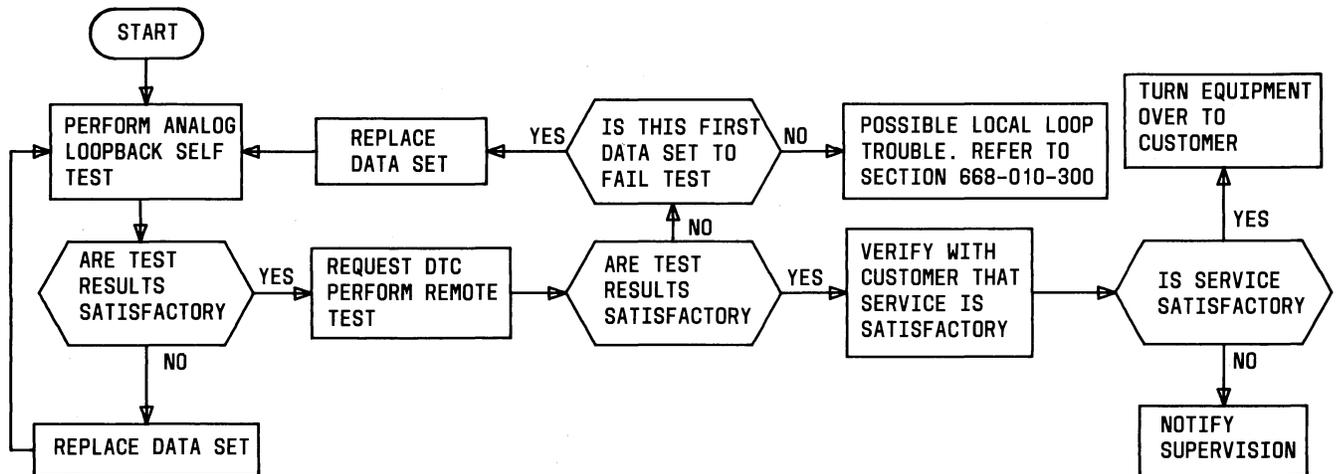

Fig. 2—Installation Test Sequence
**2.02** Before proceeding with the tests, verify that the local loop meets the requirements specified in Section 314-205-501. Refer to Fig. 2 for the installation test sequence.